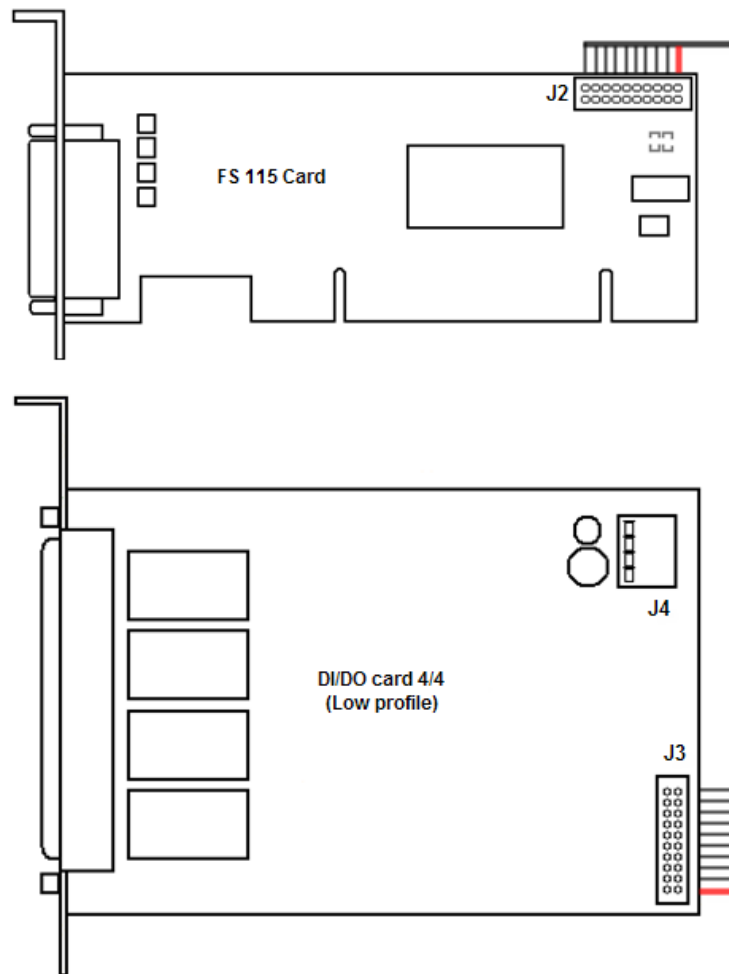

Figure 2.4-13 Diagram of the 4/4 DI/DO (low profile) card connection to FS115 card
2. Connect the 4/4 DI/DO (low profile) card to the video capture card with the help of loop included in the distribution kit. The loop is connected to J2 and J3 connectors (Figure 2.4-13 and *Appendix 5. Video capture cards pins* section).
3. Connect the cable of computer PSU (disk drive power supply) to J4 connector (Figure 2.4-13) of the 4/4 DI/DO (low profile) card.